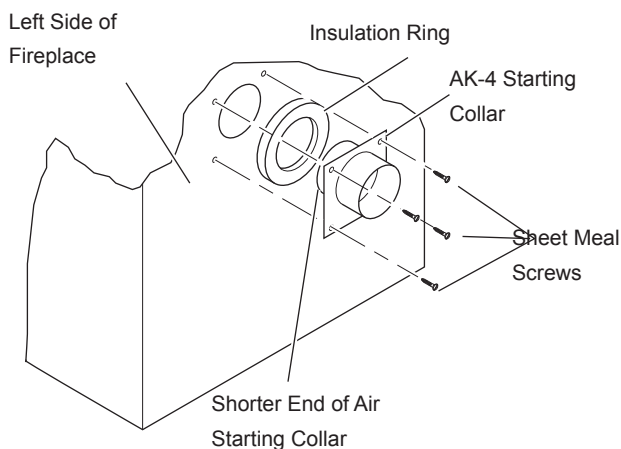

Figure 18 - Attaching Outside Air Starting Collar and Insulation Ring to Left Side of Fireplace
3. Place the starting collar (4") into the hole on the side of fireplace. Fasten it in place with the four sheet metal screws provided. *Figures 18 and 20*